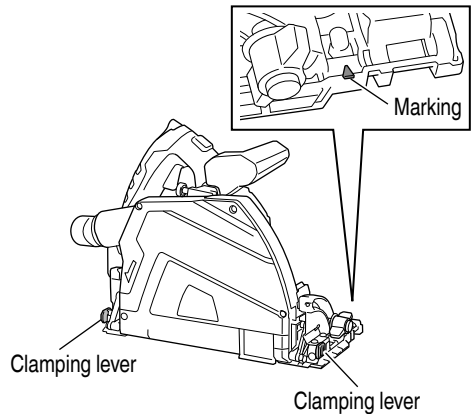

Fig. 20
**4. Sawing with a rip fence (sold separately) (Fig. 20)**